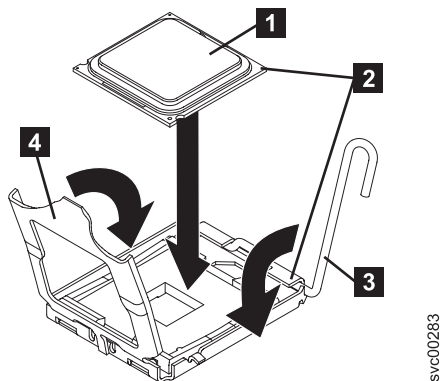

Figure 187. Aligning the microprocessor with the socket
4. Position the microprocessor **1** over the microprocessor socket, as shown in Figure 187. Use the triangular alignment cutout on the microprocessor socket and the triangular alignment mark **2** on the microprocessor to assist you in aligning the microprocessor to the socket. Then, carefully place the microprocessor onto the socket. Do not force the microprocessor. It only fits one way onto the socket.